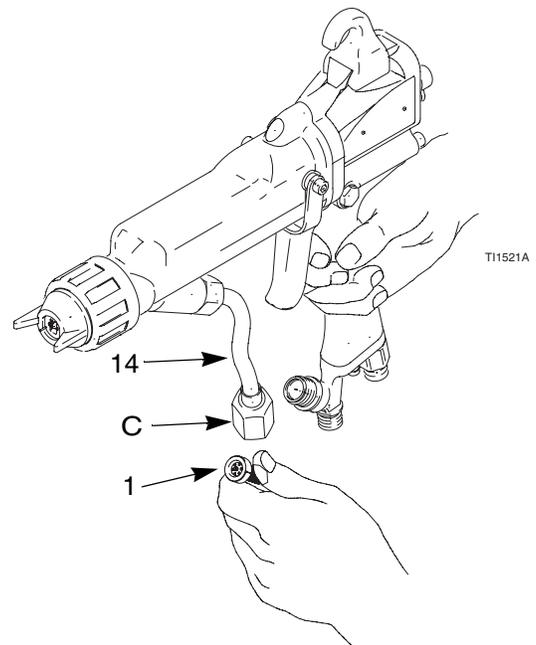

Fig. 12. Fluid Filter Removal
2. Disconnect the bottom fluid tube nut (C).
3. Remove the fluid filter (1) from the fluid fitting. Clean or replace the filter, as needed. See FIG. 12.